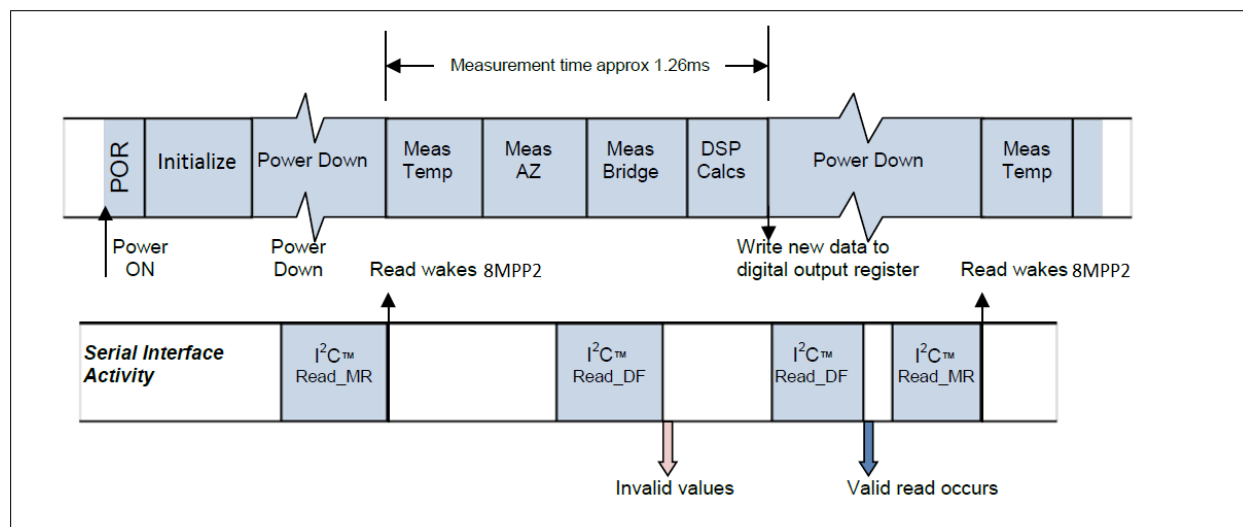
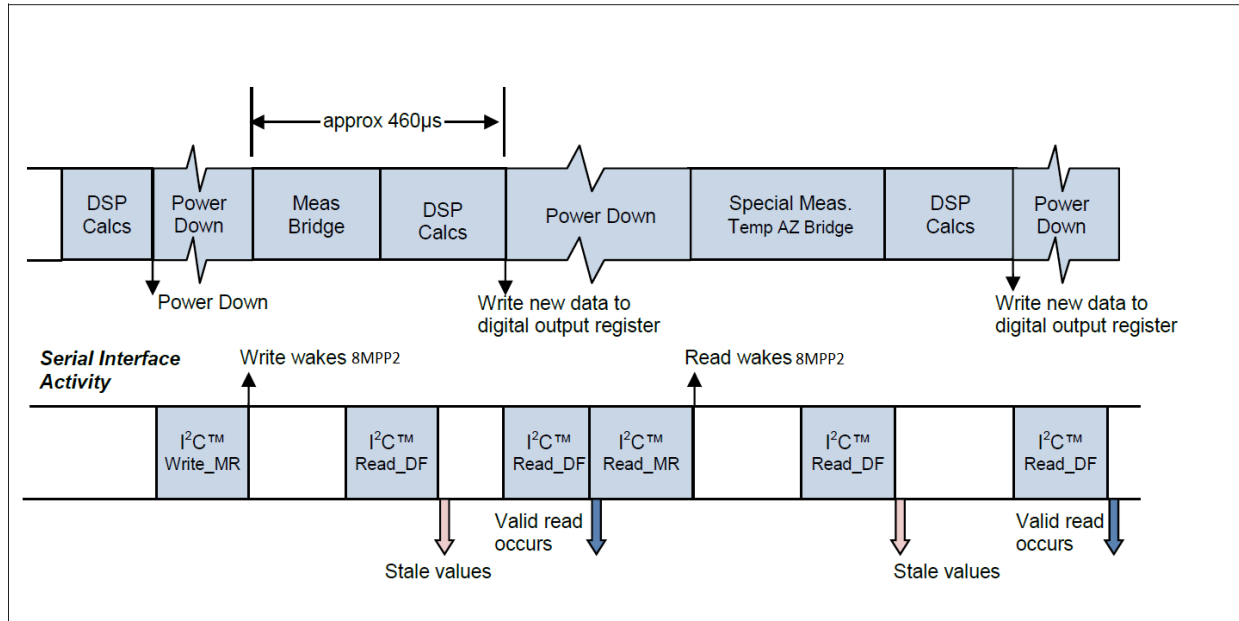

Figure 3-4: Sleep Mode Timing Diagram
Figure 3-5: Sleep Mode Data Fetch Timing Diagram
In Sleep Mode, after initialization, the 8MPP2 will power down until the controller sends a Read_MR or a Write_MR command. Specifics on the Read_MR and Write_MR commands are given in section 3.1.3. A Read_MR or Write_MR wakes the ZSC31014 and starts a measurement cycle. If the command is Read_MR, the part performs temperature, auto-zero (AZ), and a pressure measurement followed by the DSP correction calculations (see Figure 3-4). If the command is Write_MR, the part measures only the pressure and performs the correction calculations using previously measured temperature and auto-zero data (see Figure 3-5). Valid values are then written to the digital output register, and the 8MPP2 powers down again.